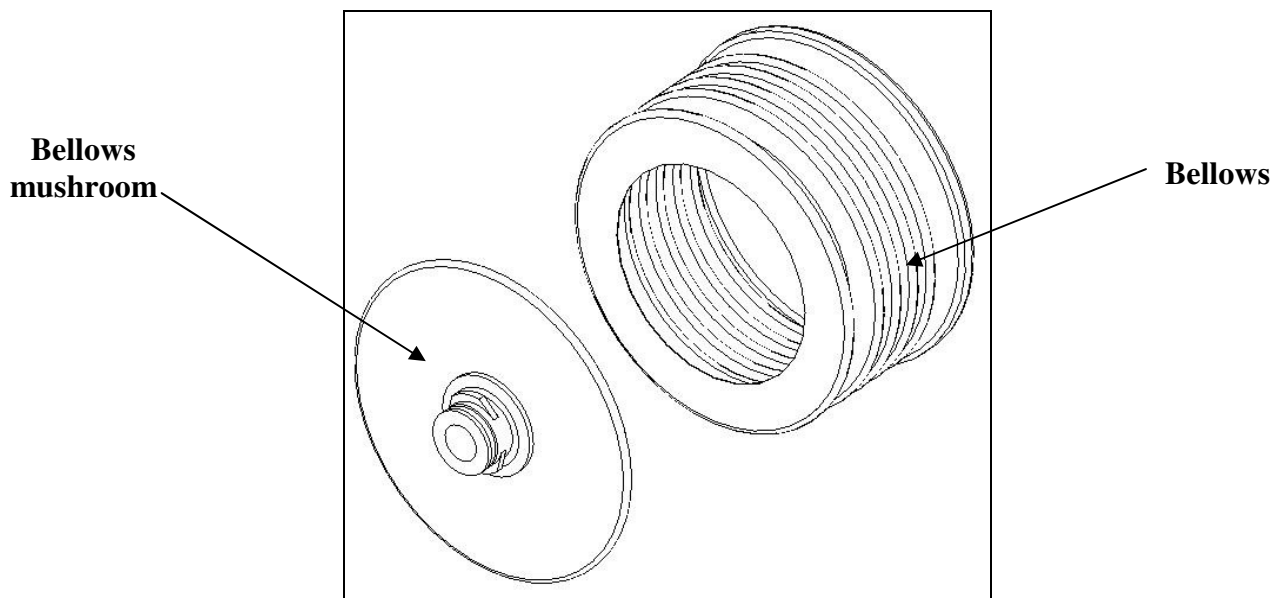

Figure 5: Bellows assembly with mushroom removed
6. The base disk (mushroom) should be removed from the bellows assembly before washing. Pull the rubber bag from the delrin base disk as shown in figure 5. The bellows may be washed or autoclaved. The base component (mushroom) should not be autoclaved but can be put through a washer at 80°C.